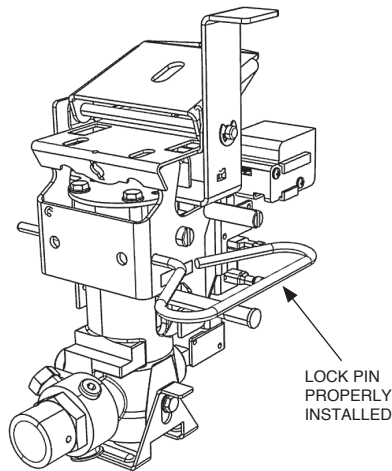

FIGURE 5-34
12. Remove cocking lever and fully insert the lock pin (Part No. 438031) through the hole in the trip lever on the left side of the release. The release mechanism cannot be actuated, nor can enclosure cover be replaced until the lock pin is removed. See Figure 5-34.